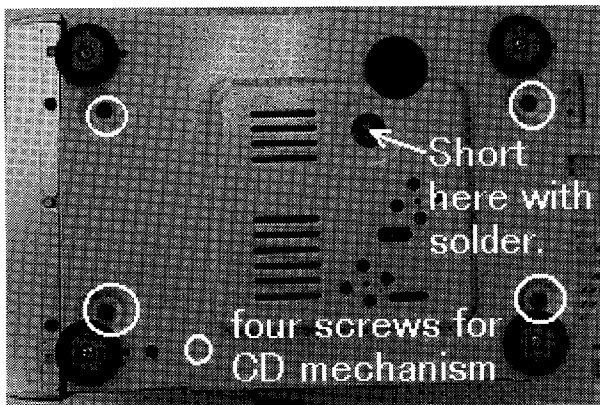

Fig. 1
4. Turn the unit upside-down and short one point with solder from the Chassis hole. This point is marked with "S" on CD Mechanism PC Board. This is necessary to prevent Opt-pickup electrostatic damage. (See Fig. 1.)
When replacing the optical pickup, first short the pattern on the CD Pick Up PC Board. (See Fig.1) Short the pattern for electrostatic protection on the CD Pick Up PC board before removing the flexible flat cable from it. After soldering, remove the flexible flat cable from the CD Pick Up PC Board.